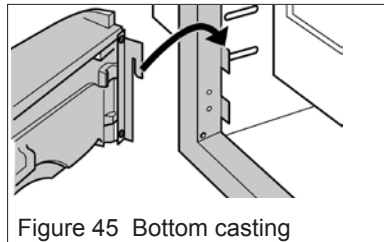

Figure 45 Bottom casting
1. Attach the bottom casting unit by hooking it over the lower tabs at the firebox sides. See figure 45.